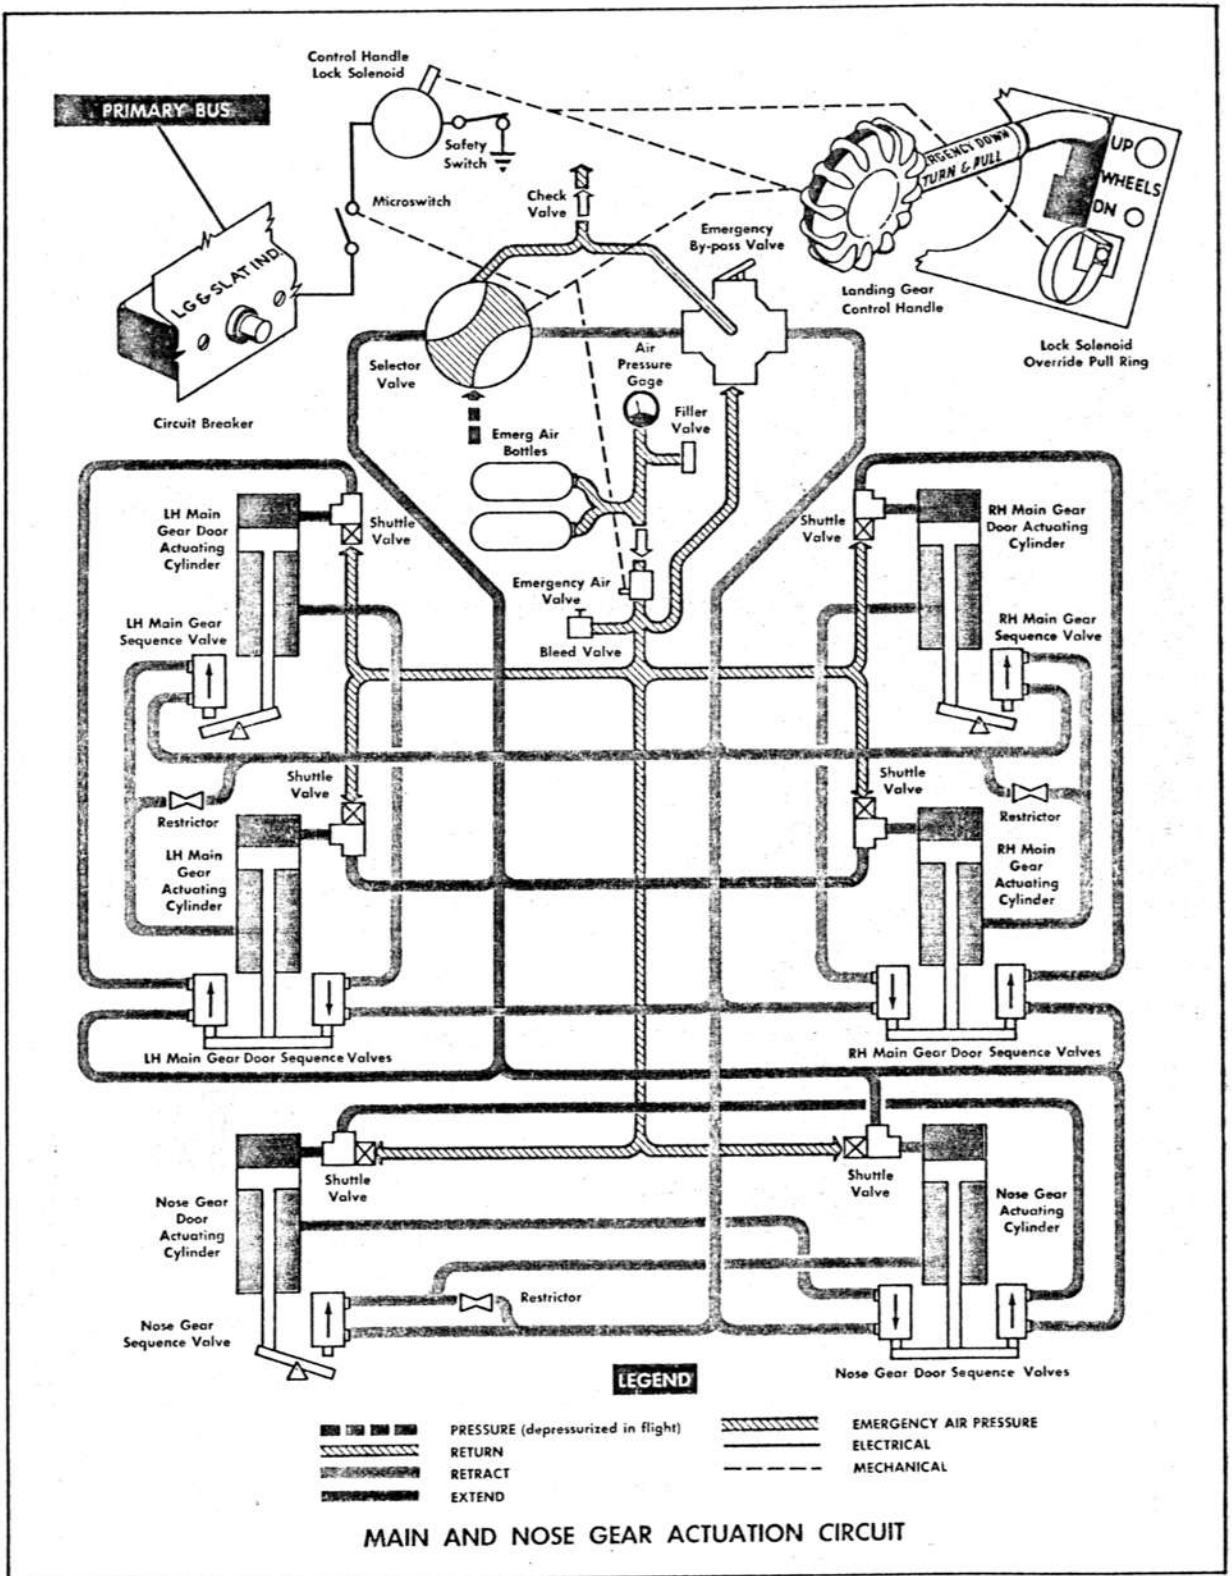

Figure 1-28. Main and Nose Landing Gear System Schematic
**GENERAL.** (See figure 1-28.) The main and nose gears form a conventional tricycle system. In the retracted position, the three gears are enclosed by doors. When the gears are extended the doors remain open. The gears and their doors are operated hydraulically; hydraulic sequence valves delay the closing of the doors until the gears are retracted. The main gears and main gear doors are equipped with mechanical locks. The nose gear and nose gear doors have actuating cylinders with internal locks.